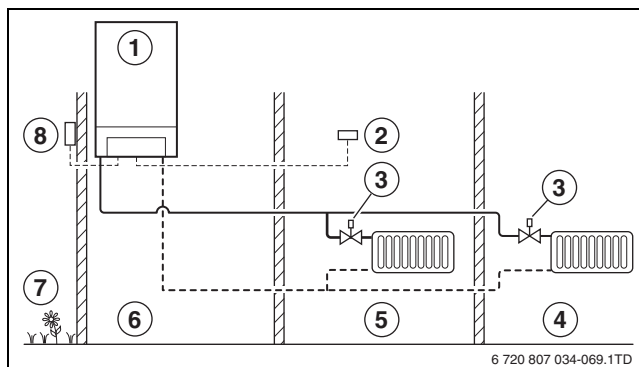

Fig. 48 Principle of weather-compensated control
- With weather-dependent control, the temperature in all rooms is controlled by thermostatically controlled valves mounted on the radiators. The controls can be installed in any location (→ figure 48).